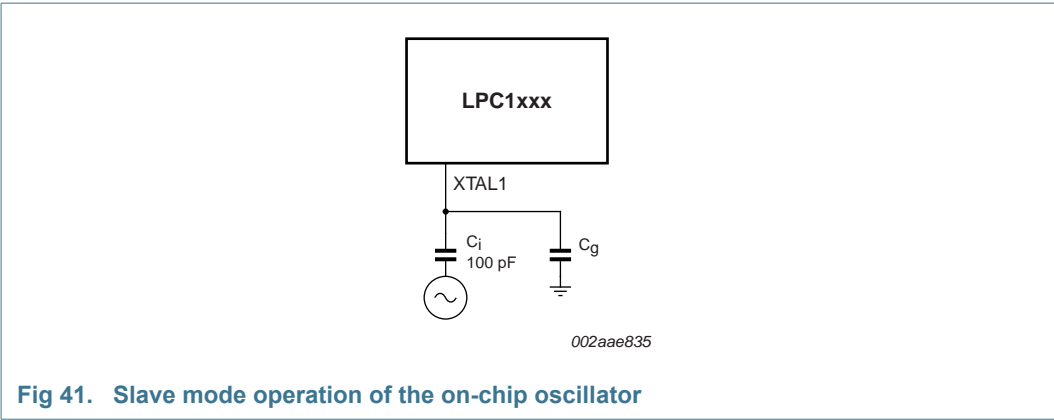

Fig 41. Slave mode operation of the on-chip oscillator
- In slave mode, couple the input clock signal with a capacitor of 100 pF (C_C in Figure 41), with an amplitude of at least 200 mV (RMS). The XTAL2 pin in this configuration can be left unconnected.
An external clock can be connected to RTCX1 if RTCX2 is left open. The recommended amplitude of the clock signal is $V_{i(\text{RMS})} = 100$ mV to 200 mV with a coupling capacitance of 5 pF to 10 pF. $V_{i(\text{RMS})}$ must be lower than 450 mV. See Figure 41 for a similar slave-mode set-up that uses the crystal oscillator.